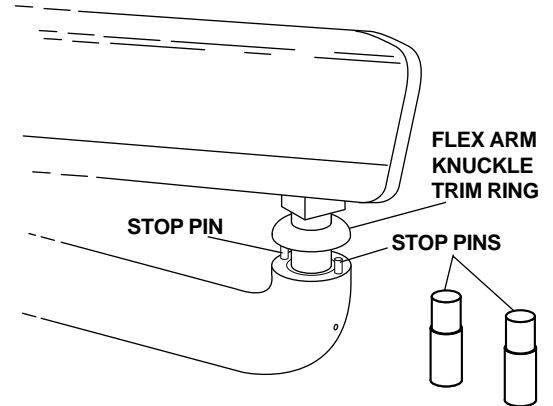

FIGURE 13
6. Remove the two safety stop pins (see Figure 13) from the dental light ship kit and install them in the rigid arm (see Figure 13).